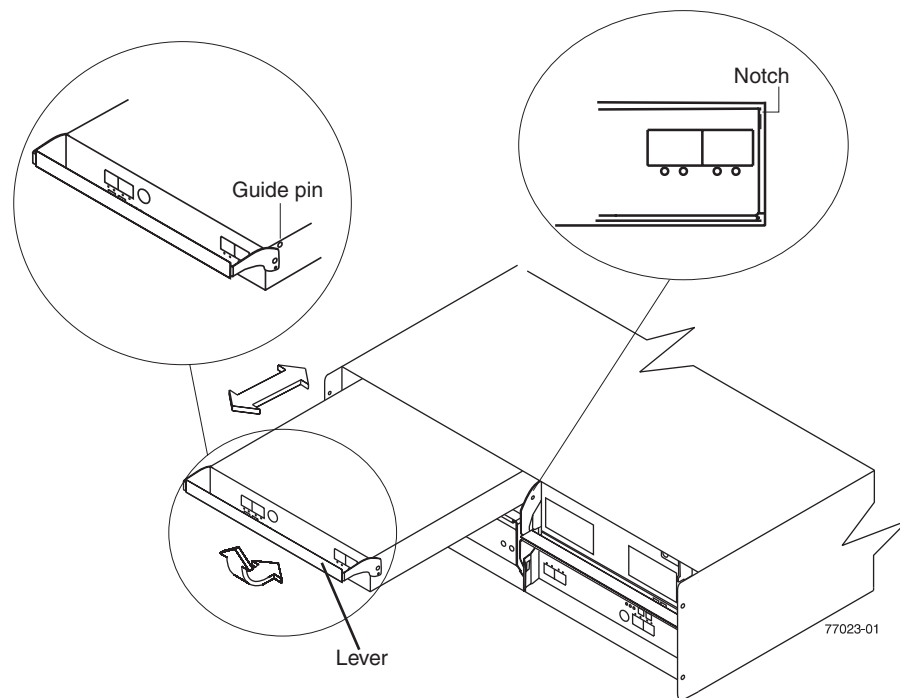

Figure 49. Removing and replacing an Environmental Service Module (ESM)
8. While squeezing the latch, pull the lever open 90° (so that the lever is horizontal). Pull the lever away from the chassis to remove the ESM from the EXP420 midplane, as shown in Figure 49.